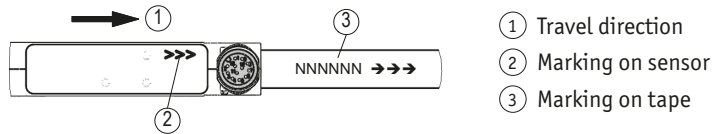

Fig. 7: Alignment
- ▶ Take care that the magnetic sensor is aligned correctly in order to ensure optimum sensing (see Fig. 7).
3. The direction of the arrow of the sensor imprint must tally with the direction of the arrow of the tape imprint for alignment (Fig. 7).
- Magnetic sensor has not been aligned according to Fig. 7.